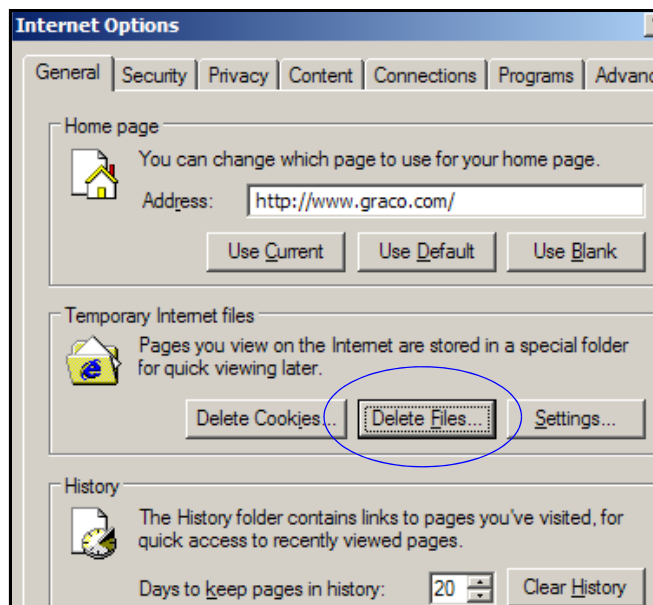

FIG. 10 Internet Options General
1. In the Temporary Internet Files section of the Internet Options box, click **Delete Files**. Select the **Delete All Offline Content** check box. Click **OK** (FIG. 10).